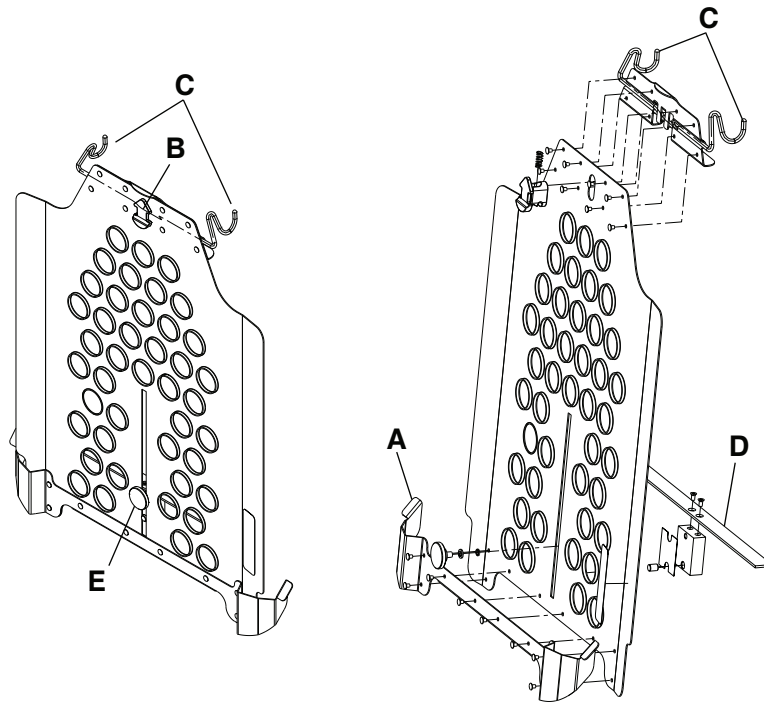

Figure 37 – X-ray cassette holder
3. Insert the lower retainer guides (A) under the Fowler backrest weldment bar (Figure 37).